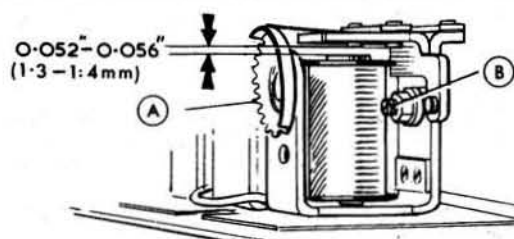

FIG.10.21. RB.340 CONTROL BOX. VOLTAGE REGULATOR GAP SETTING
25 To set the core gaps of the voltage and current regulators, refer to Fig.10.21 and, using a suitable tool, turn the adjustment cam (A) fully anti-clockwise and now slacken the adjustable contact locking nut and screw back the adjustment contact.